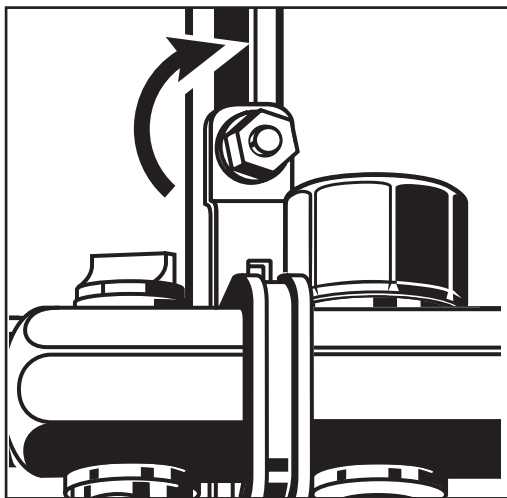

Figure 2b
3. Install all four nuts and tighten. See *Figure 2b*.